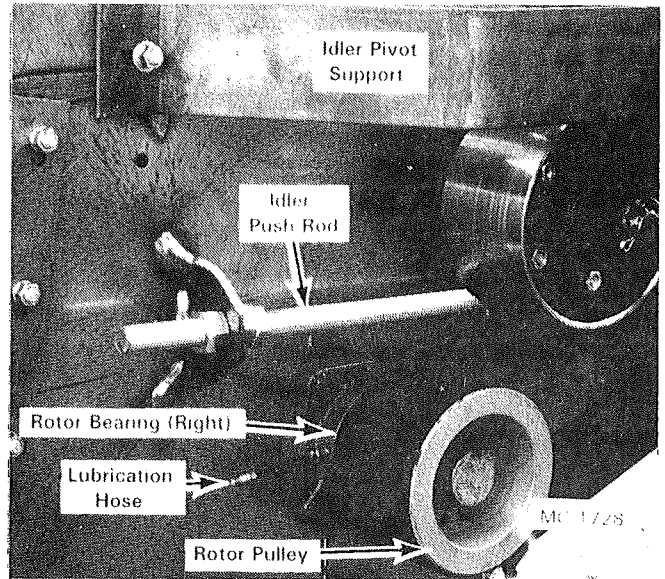

Figure 42 - Idler Push Rod Ass'y.
- Remove the belt guard cover, lubrication hose and back belt guard, see Figure 42. Remove the drive belts. Refer to "Drive Belt Replacement" page 15 for procedure.